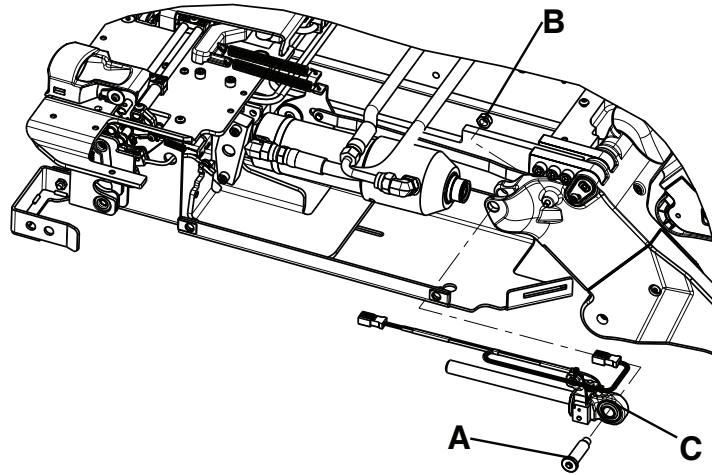
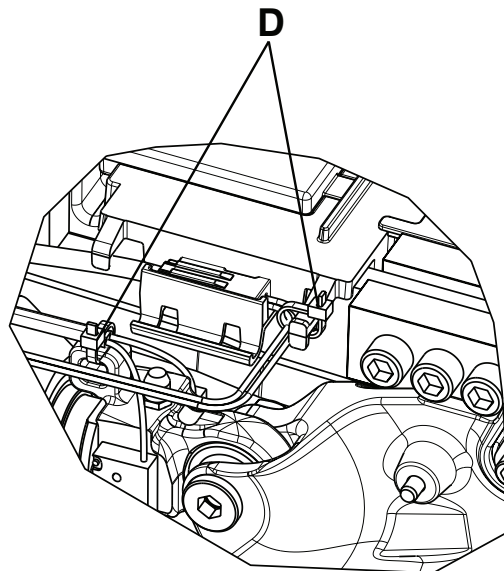

Figure 34 – Hydraulic cylinder assembly
Figure 35 – Cable ties locations
4. Using a 1/4" hex wrench and a 1/2" combination wrench, remove the end cap cylinder pin (A) and nut (B) (Figure 34).
5. Using diagonal pliers, cut the cable ties (D) (Figure 35) that secure the hydraulic cylinder rod end assembly (C) cable to the plastic cover (Figure 34).
6. While lifting up on the cylinder, remove the hydraulic cylinder rod end assembly (C) (Figure 34). Save the hydraulic cylinder rod end assembly for reinstallation.